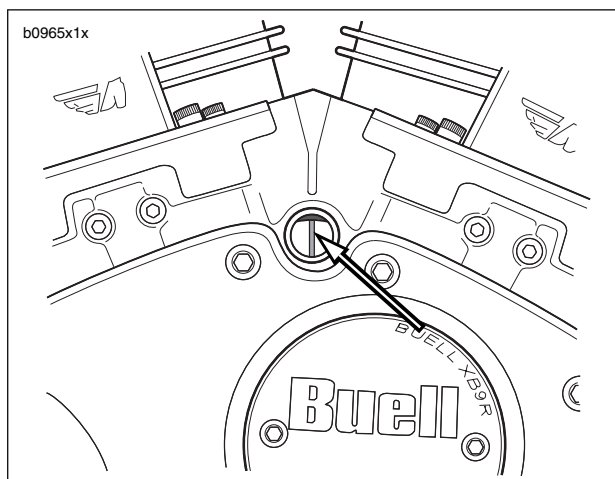

Figure 1-48. Correct Timing
10. See Figure 1-48. If the static timing is correct, the screen will switch to HIGH - 5 volts at the precise moment the timing mark exactly centers in the inspection window.